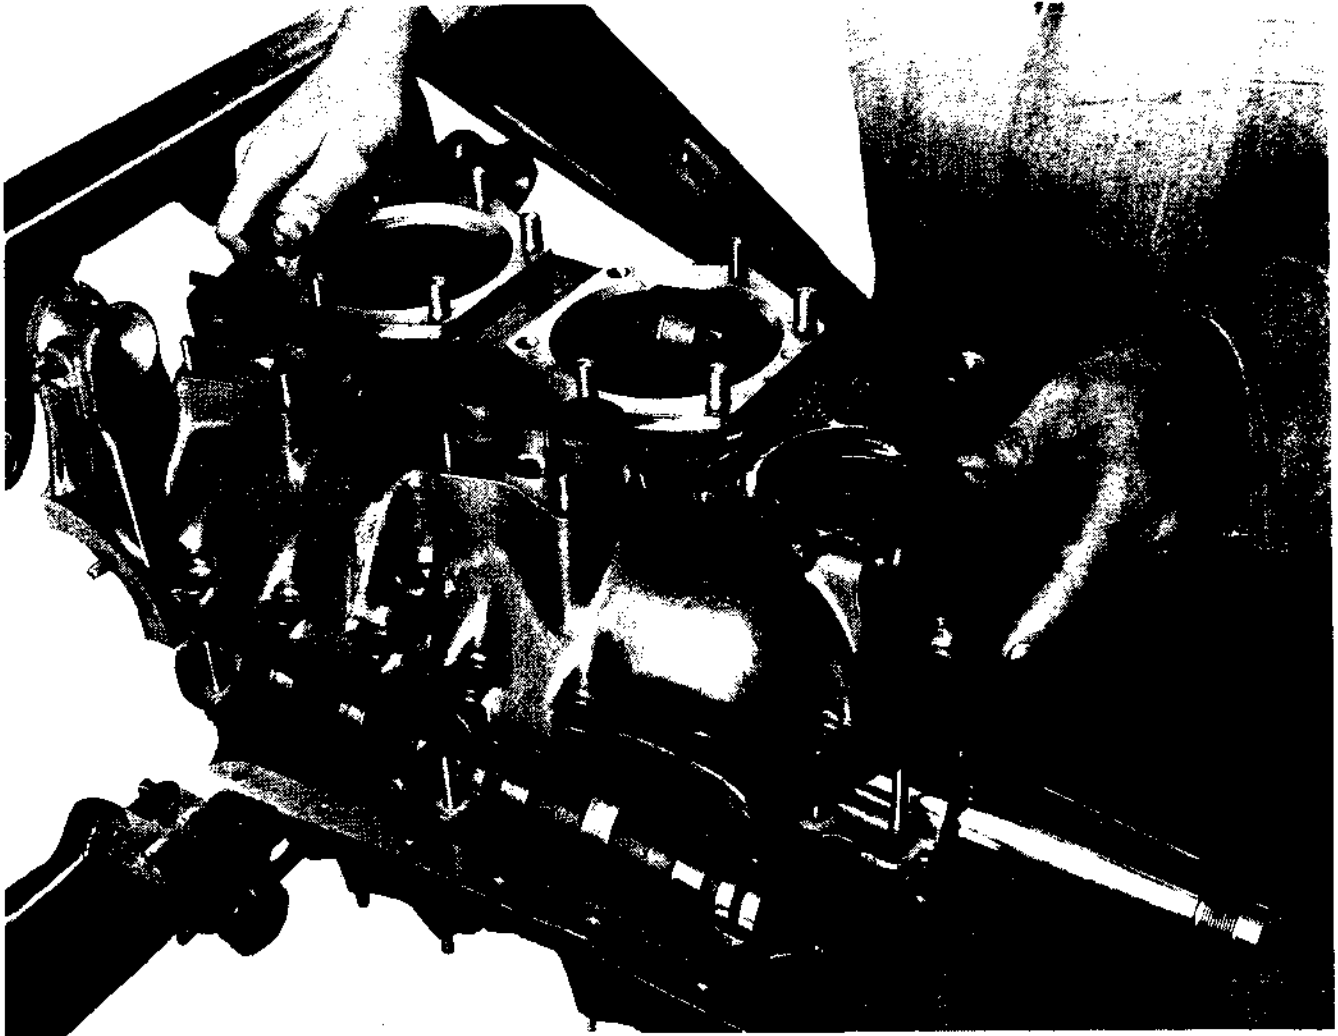

Figure 21. Installing Crankcase 1-3 over Crankcase 2-4.
(1) Install oil seal on front of crankshaft, pushing securely into place on the No. 2-4 crankcase.
(2) Lay No. 1-3 crankcase in place on No. 2-4 crankcase, carefully guiding connecting rods No. 1 and No. 3 through cylinder ports. (Fig. 21.) Be sure dowel bolts are in their proper locations. Check camshaft and crankshaft for free running to see that crankcases are installed in their proper positions. Remove push rod hose connections from cam followers on No. 1-3 crankcase.
(3) Assemble the six (6) 1/4 inch cap screws, washers and nuts at top of the crankcase. Assemble the five 1/4 inch cap screws, washers, and nuts at bottom of crankcase. Three dowel cap screws are used for properly lining up the crankcases. Assemble remaining cap screws, washers, and nuts on front end of crankcase. Assemble remaining washers and nuts to crankcase studs. Install breather connection in tap provided in side of No. 1-3 crankcase opening pointed toward the bottom of the crankcase.
(4) Rotate engine stand so that front of engine is pointing straight up. Tighten all nuts holding the two halves of the crankcase firmly and evenly. Install propeller hub key in keyway if taper end type crankshaft--tapping carefully in place with mallet. Install palnuts on all nuts holding crankcase together.